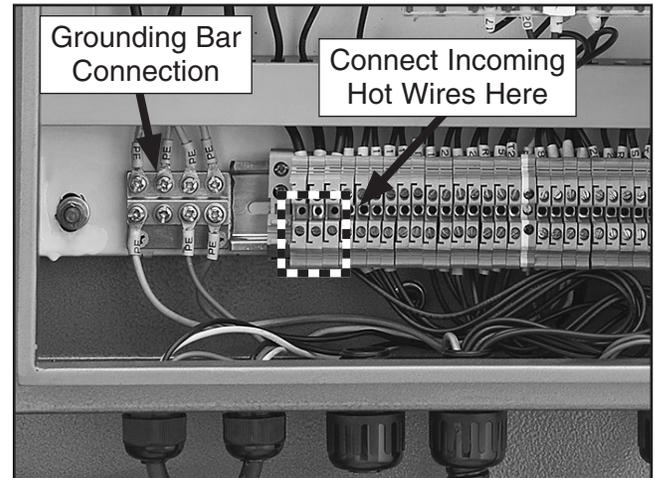

Figure 17. Incoming power connections.
2. Install a strain relief in available hole in bottom of electrical cabinet (see **Figure 17**), then pull incoming power cord through strain relief.
3. Connect incoming hot wires to the bottom of the first three terminal bar connectors shown in **Figure 17**, then connect incoming ground wire to grounding bar (refer to the **Electrical Cabinet Wiring Diagram** on **Page 57** for additional details).